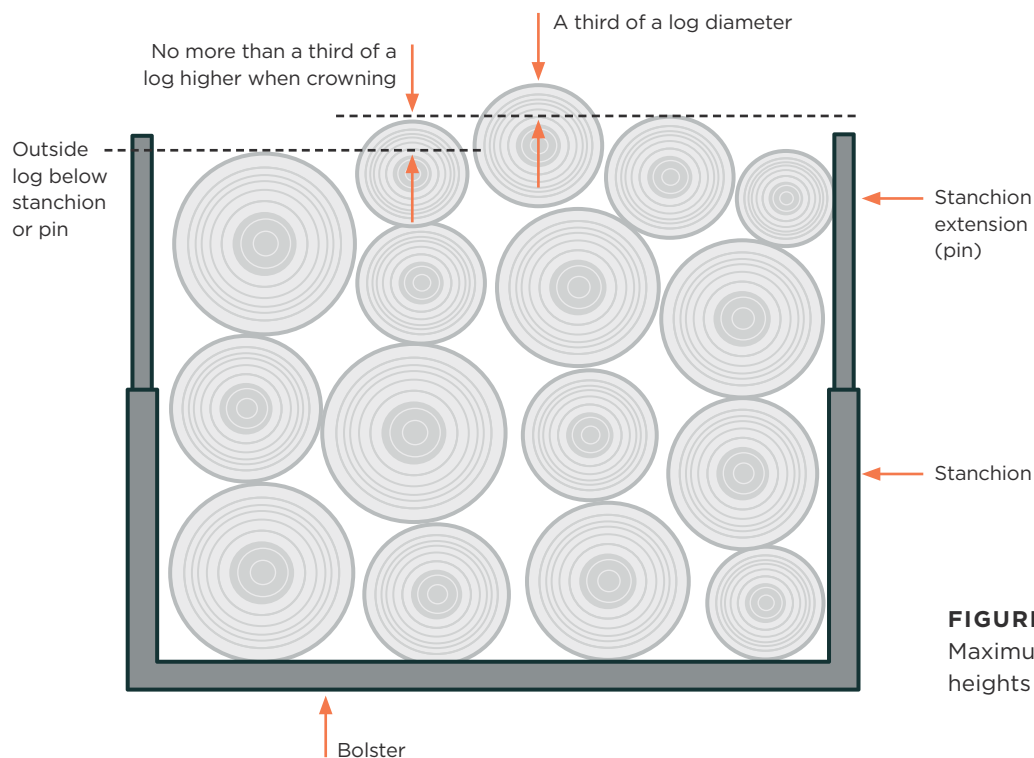

FIGURE 33:
24.3.26 Make sure no more than one-third of the end diameter of any log is above the top of a cab guard, headboard, tailboard, or stanchion pin (Figure 33).